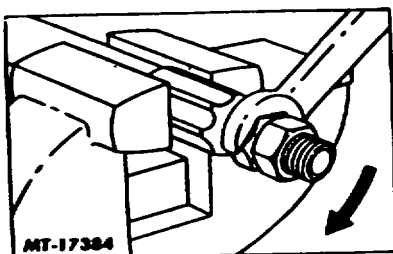

Fig. 5
8. Position hose socket in swivel nut and reassemble pipe adapter (if removed) to lock swivel nut on the fitting. Thread the fitting and swivel nut (with pipe adapter) assembly into the hose as shown in Fig. 5 leaving .793-1.59 mm (1/32 inch to 1/16 inch) clearance between nut and socket so that the nut can swivel freely.